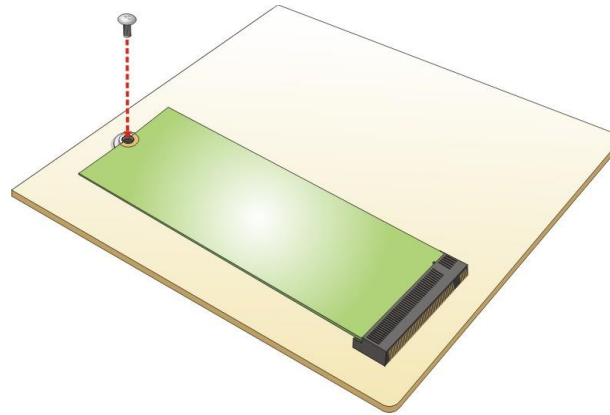

Figure 3-5: Securing the M.2 SSD
Step 6: Push the M.2 module down and secure it with the previously removed retention screw (**Figure 3-5**).